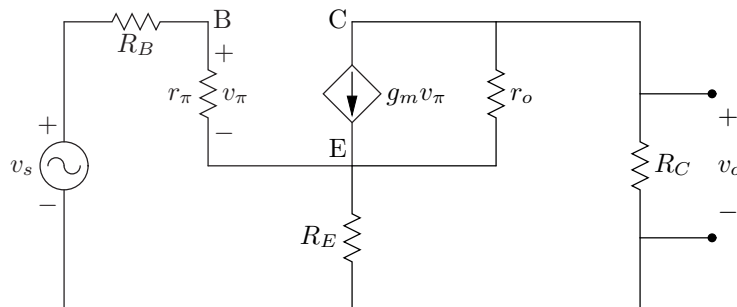

Figure 3: A small-signal model of a BJT
- Figure 3 shows the small-signal model for a NPN BJT, short for **bipolar junction transistor**. We often model transistors with simpler, linear components in order to analyze them. Once again, we've labeled the terminals for you: **C**ollector, **B**ase, and **E**mitter.
2. Write a netlist for the circuit in Figure 3 using the following parameters: